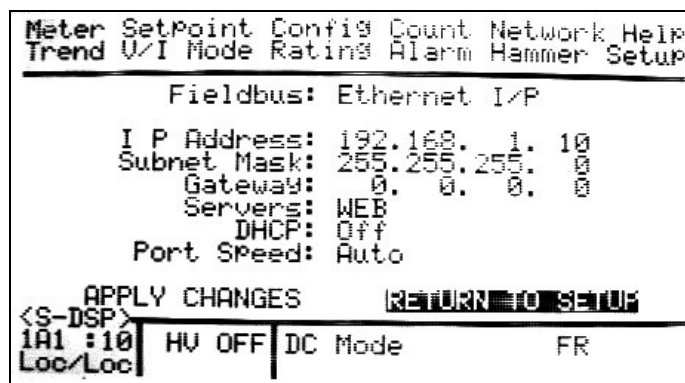

Figure 4-8
2. A new screen will be displayed with the specific protocol parameters for the field bus being used (fig. 4-8). Enter the appropriate data for each parameter. Press <Enter> after each entry. Consult with your network administrator for the proper parameter values to be entered.